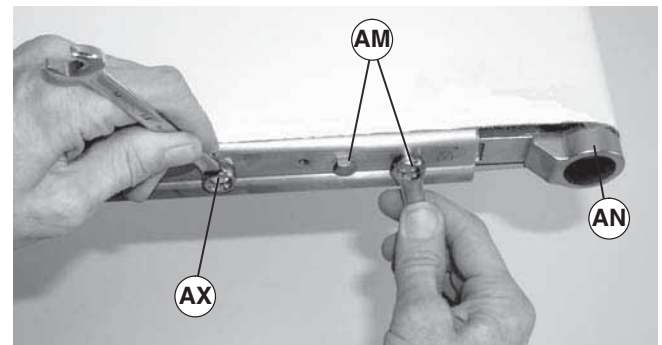
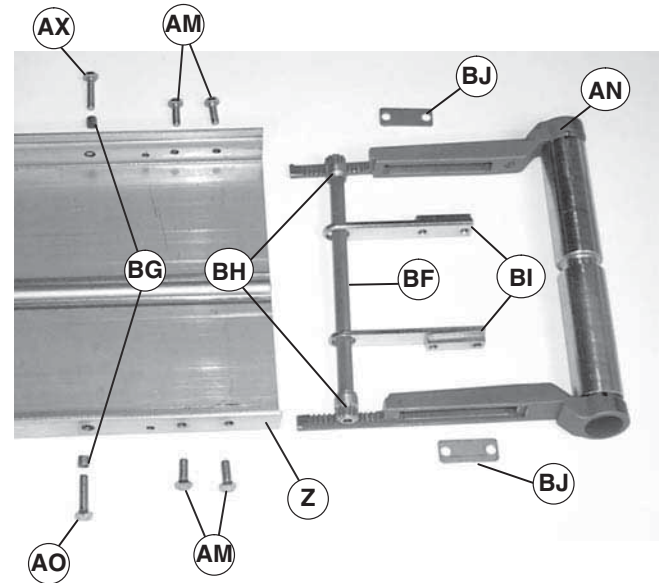
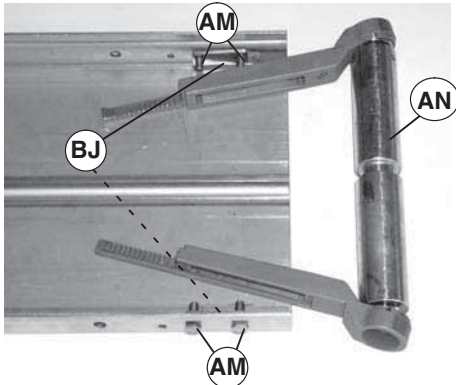

Figure 27
Figure 33
Figure 41
1. On tension end of the conveyor, loosen two M6 hex head cap screws (Figure 27, item AM) on each side of conveyor.
3. Repeat steps 1 and 2 for screw (Figure 27, item AX) and (Figure 33, item AX) on opposite side of conveyor.
4. Remove two M6 hex head cap screws (AM) from each side of conveyor.
5. Remove two pinion ends (Figure 33, item BH), clamp blocks (BI), hex pinion (BF), two spacers (BJ) and tail assembly (AN) from conveyor (Z).
Loosely install two spacers (Figure 33, item BJ) and (Figure 41, item BJ) and four screws (AM) prior to installing idler tail assembly (AN) on conveyor.